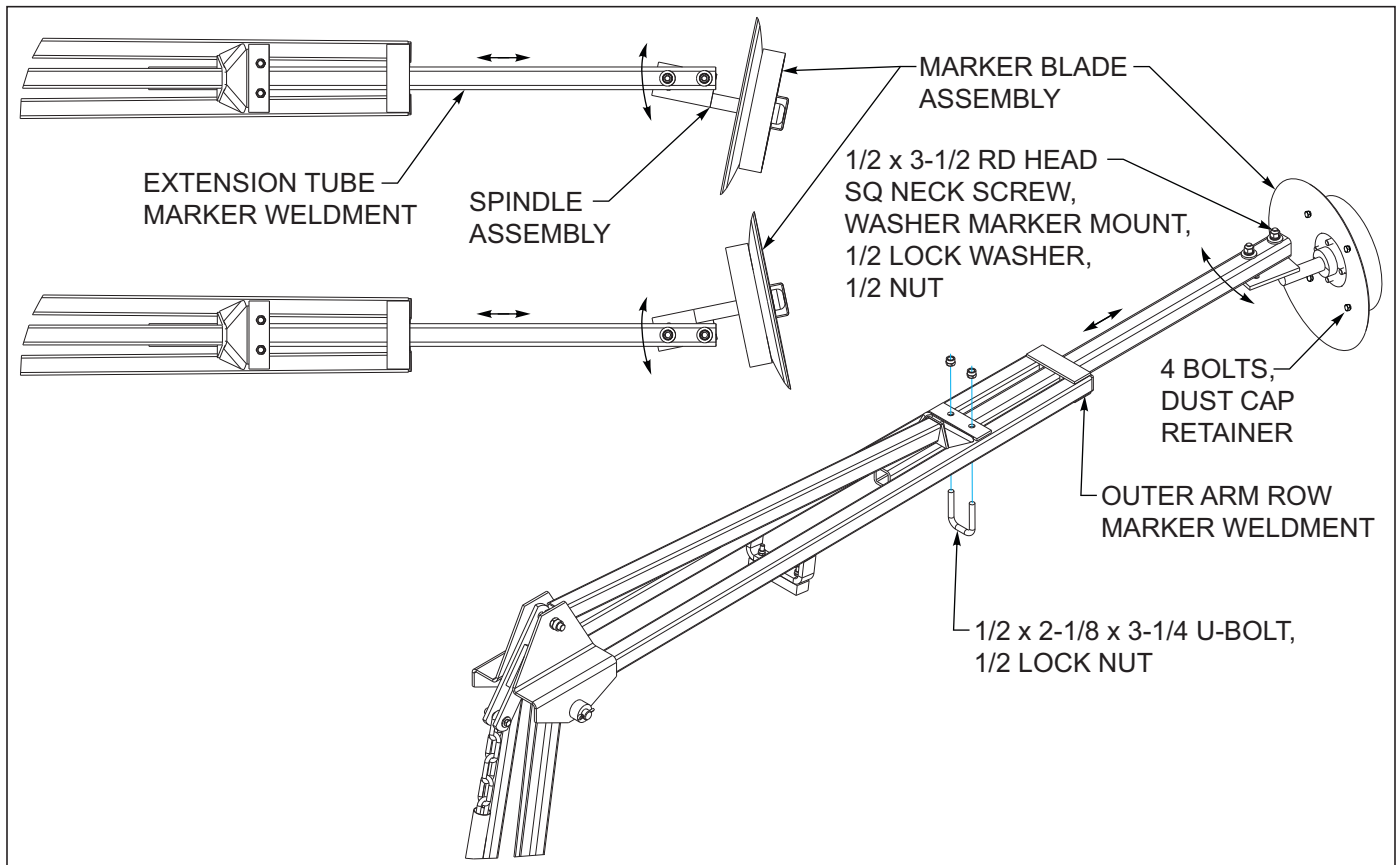

Figure 4-41: Hydraulic Row Marker Adjustment
- a. The disc angle may be adjusted to leave a wider or narrower cut. The steeper the angle the wider the cut will be *See Figure 4-41*.